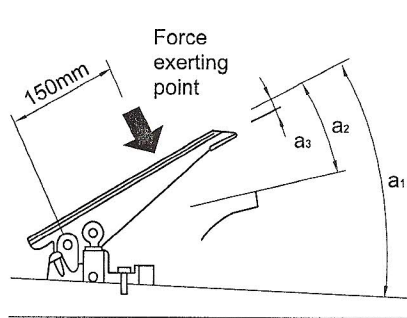

Fig. 05-31
(1) Start up the engine.
(2) Push slightly, with hands, the brake pedal. And measure the angle α_3 when you just feel it gets heavy to push the pedal (See Fig. 05-31).